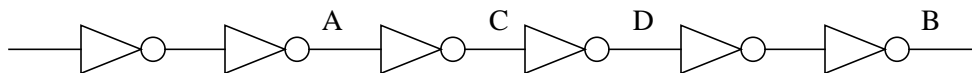

FIGURE 1 - Series INVERTER Circuit
1. Using Mentor Graphics create the INVERTER chain circuit shown in Figure 1 using the 74LS04 inverter. To accomplish this, you will need to access the inverter component from a **74LS** library not the **gen\_lib**. Make sure you select the inverter that looks like an inverter and not a box.
1. Create the circuit shown in FIGURE 1 (only one 7404 (hex-inverter) is needed). Make sure the chip has the source voltage and ground applied to the proper pins.